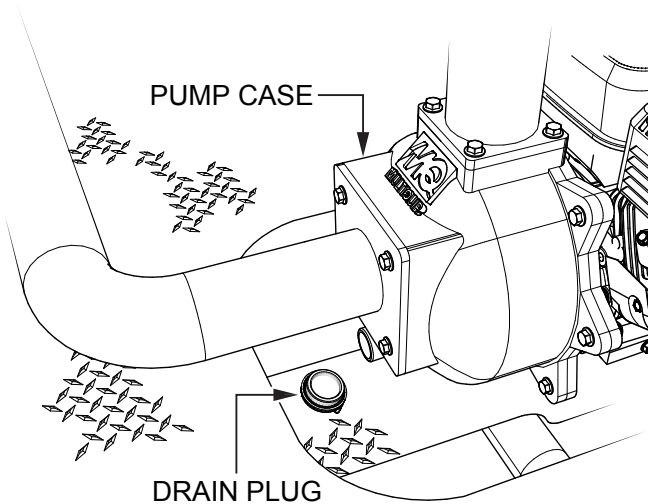

Figure 24. Remove The Drain Plug
3. Locate and remove the pump drain plug on the pump end (Figure 24).